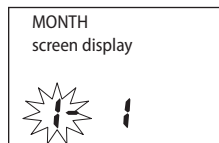

Fig. 1
2. When the unit is off, press and hold the **START** and **MEM** button at the same time. The month will begin to flash, Fig. 1.